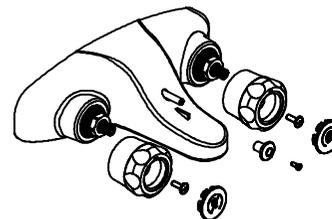

Fig. 4
- 6 Attach handle assemblies. Attach diverter knob. If the wide end of the diverter touches the raised ridge, tighten the knurled mounting nuts until the knob extends beyond the ridge. (see Fig. 4)